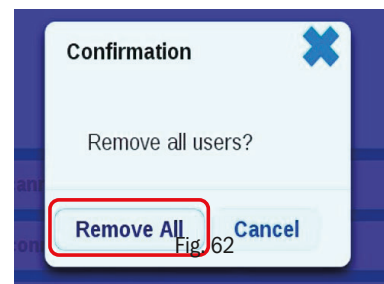

Fig. 62
4. Press **Remove All** to remove all users (Fig. 62)